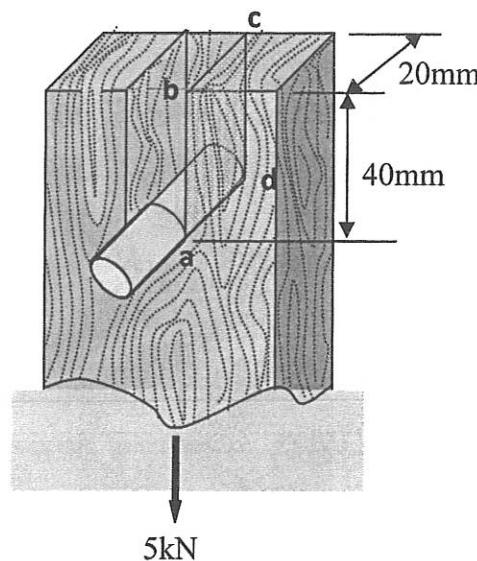

Figure Q1c/ Rajah S1c
- (c) The wooden strut shown in Figure Q1c below is suspended from a 10mm diameter steel rod and fastened to a wall. If the strut supports a vertical load of 5kN, calculate the average shear stress in the rod fastened to the wall and along the two shaded planes of the strut, one of which is indicated as abcd.